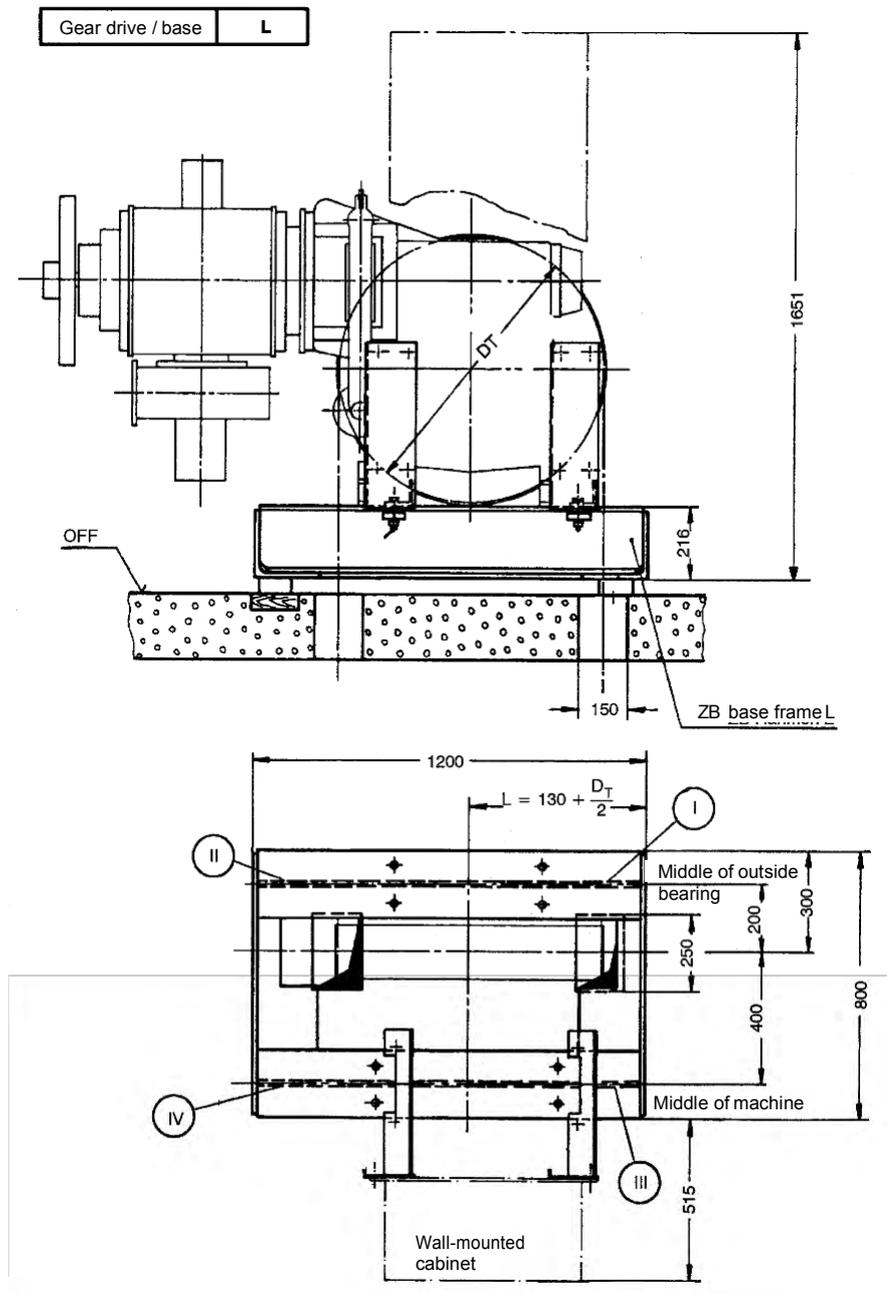

Fig. 3.3.1
1. **Without deflecting pulley**, for direct rope departure elevator car–counterweight, or 2:1 suspension. Version, see Table 1. Illustration, Fig. 3.3.1.
- Fig. 3.3.1 Base frame **with** deflecting pulley: the traction sheave must be on the same side as the deflecting pulley. Move the machine sideways on the base frame until the required **ASL** dimension (parallel gap between the ropes at the rope departure) is reached.